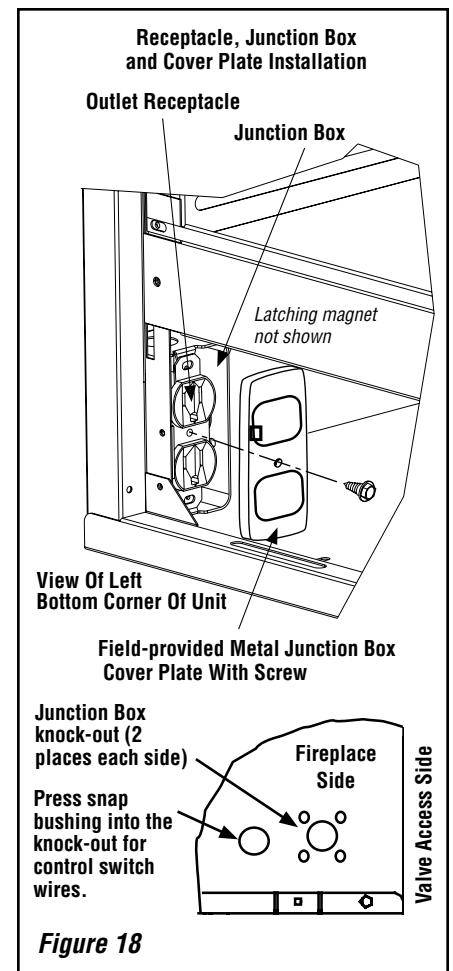

Figure 18
Note: The junction box can be installed in any of the 4 outside corners of the control compartment (outlet installed in front left corner is shown in **Figure 18**).
5. After the receptacle/junction box wiring is complete, install the field-provided metal junction box cover plate (see **Figure 18**).